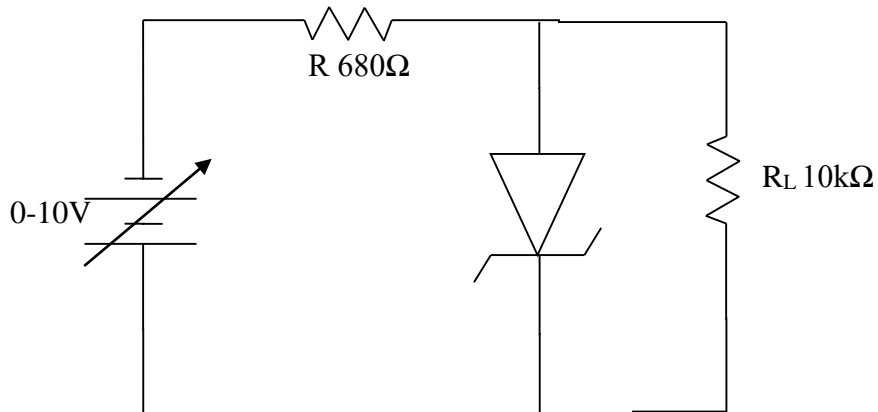

Fig 7.5 Zener voltage regulator
1. Connect circuit as shown in Fig 7.5